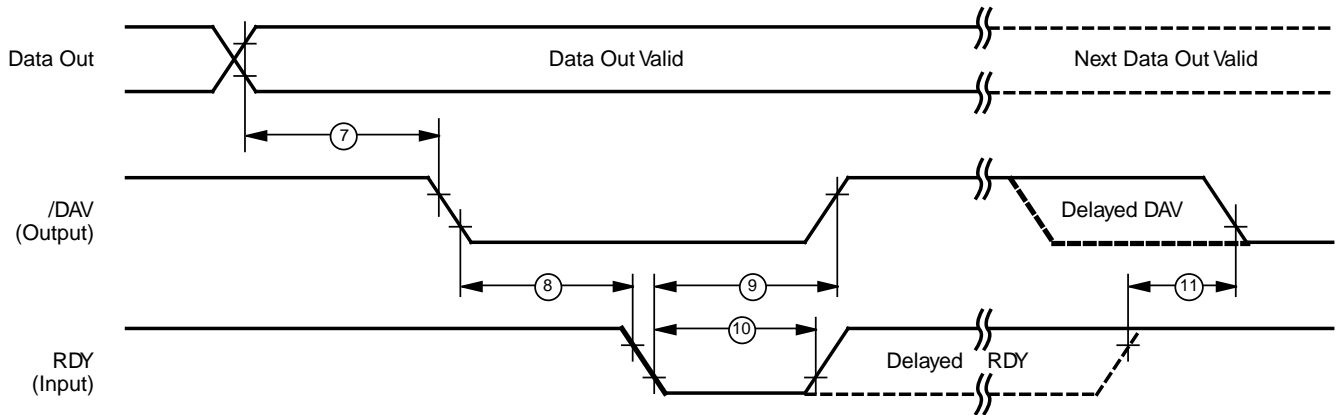

Figure 8. Output Handshake Timing
**Comparator Outputs.** Comparator output of COMP1 can be programmed to output on P34 through the PCON register (Figure 8).